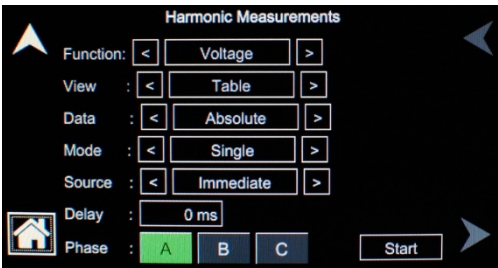

Figure 6-4. HARMONICS Menu, Triggering
Trigger mode could be selected from the front panel using the MODE field in the HARMONICS menu of the MEASUREMENTS screen; refer to Figure 6-4.
Trigger sources could be selected from the front panel using the SOUR(CE) field in the HARMONICS menu of the MEASUREMENTS screen; refer to Figure 6-4.